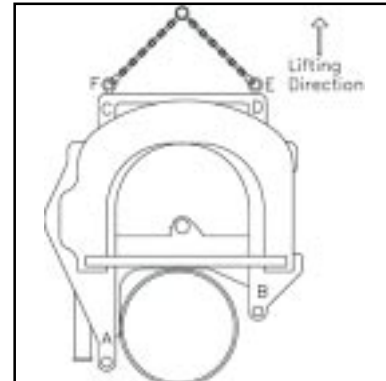
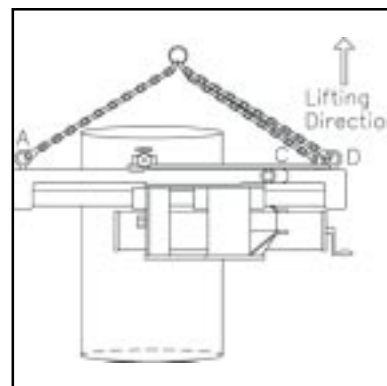

figure 2
figure 4
4. Lift saw on to the pipe with the supplied lift the Guillotine on the pipe using eyebolts **F** and **E** (figure 2) to mount the machine vertically.
When the pipe is vertical use eyebolts **A**, **C** and **D** (figure 4). The pipe rests against the saddle as illustrated (figure 2).